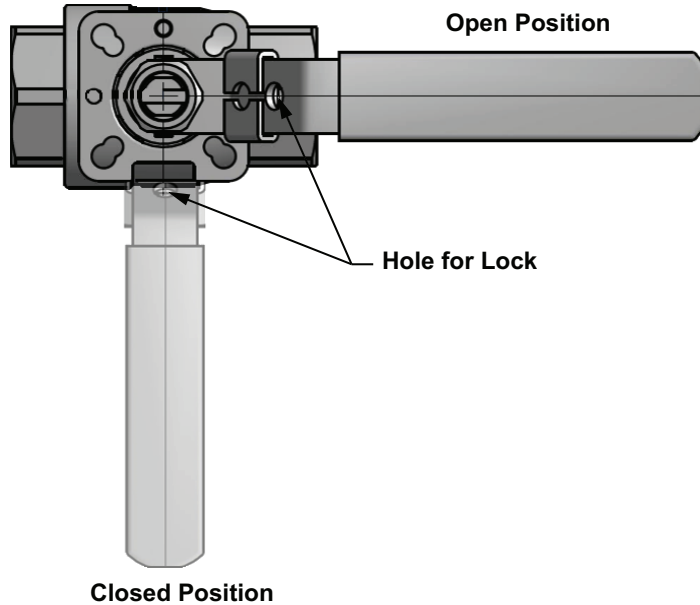

Figure 19. Lock Locations (Limit Switch not shown)
2. Lock the valve. Locations for the lock are shown in Figure 19.